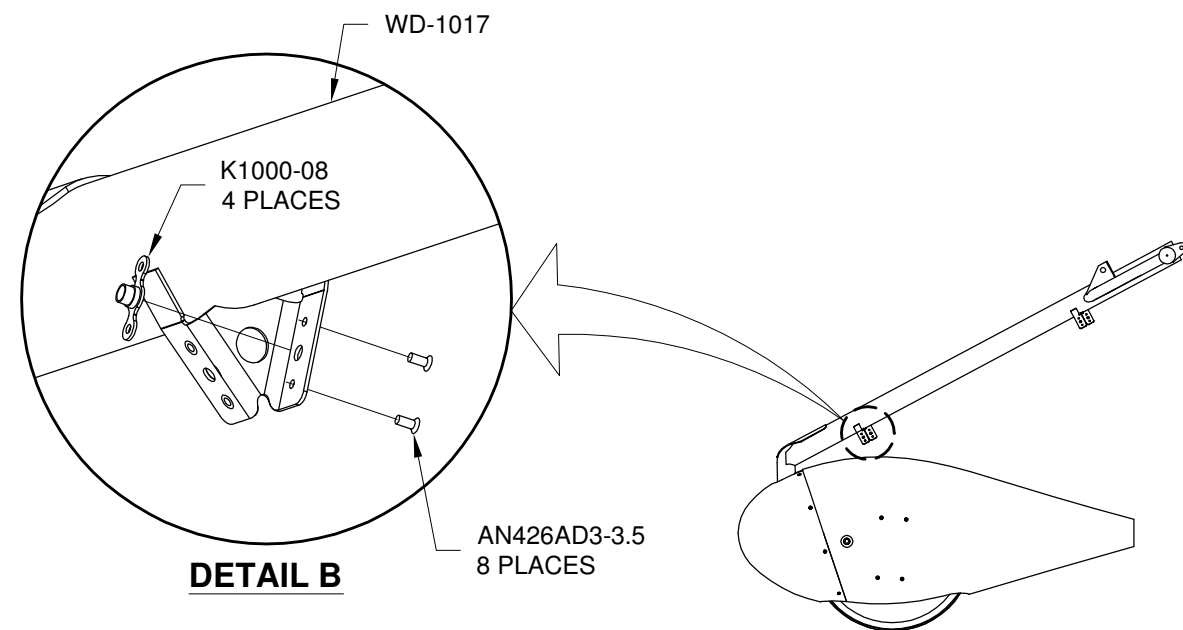

FIGURE 2: RIVETING NUTPLATES TO THE NOSE GEAR LEG ASSEMBLY
Step 2: Remove the U-1018 Nose Gear Leg Fairing. Final-Drill #40 the rivet holes and countersink them for the rivets called out in Figure 2. Rivet nutplates to the WD-1017 Nose Gear Leg Assembly as per Figure 2.